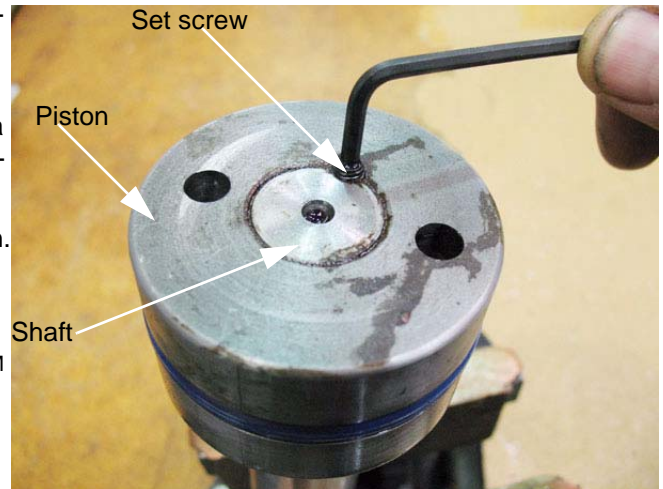

Figure 5.22
3.12. Remove the set screw that locks the piston from rotating on the threaded shaft, using a 3mm allen wrench. See Figure 5.22.